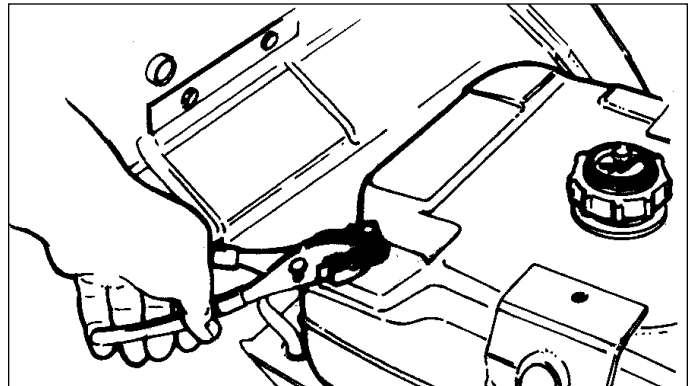

Figure E-6. Disconnect Gas Line
2. Using a pliers, loosen the clip holding the gas line to the tank and slide it down the gas line. See Figure E-6.